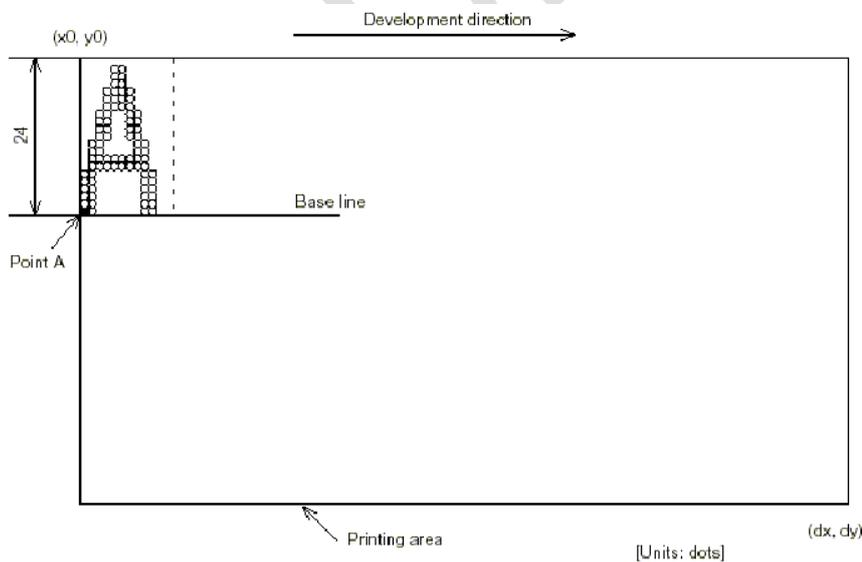
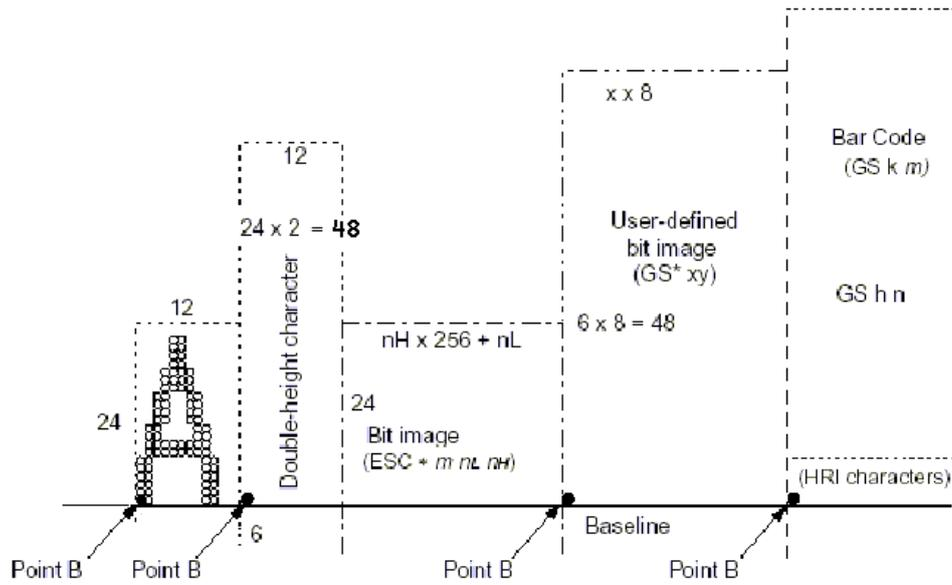

Figure B.2 Character Data Developing Position
Figure B.3 Print Data Developing Position
- 2) When the printer receives print data after **ESC W** sets the printable area and **ESC T** sets the printing direction, the print data is formatted within the printable area so that point A in Figure B.2 is at the beginning of the printable area as a default value. (When a character is printed, point A is the baseline.) Print data containing downloaded bit images or bar codes is formatted so that the bottom point of the left side of the image data (point B in Figure B.3) is aligned with the baseline.